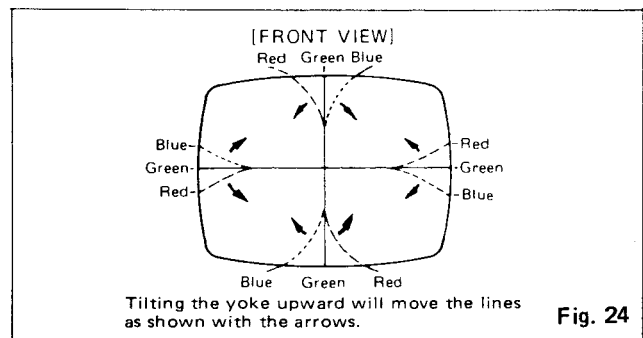

Fig. 24
7. Tilting the angle of the yoke up, down and sideways, and adjust the yoke so as to obtain the circumference convergence. (Fig. 24, 25.)